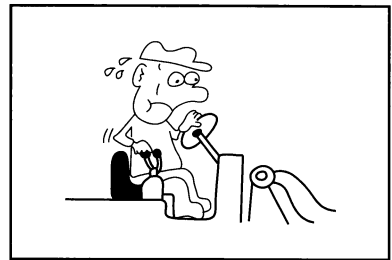

Figure1-66
- The operation to handles must be correct. (Figure 1-66)